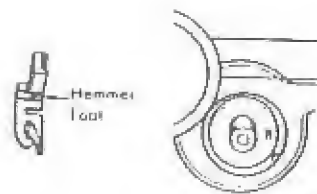

Fig. 63
- (1) Raise the needle bar to its highest position;
- (2) Attach the hemmer in place of the ordinary sewing foot. (Fig. 63)